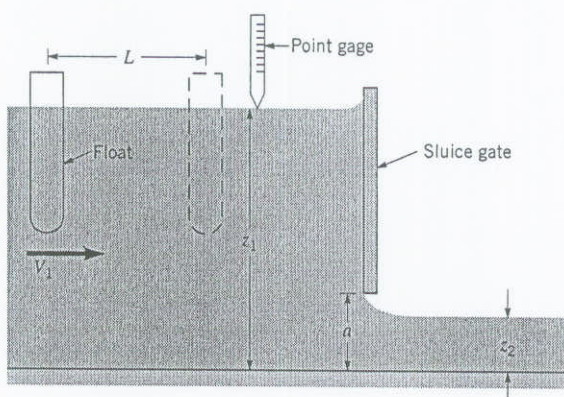

FIGURE P3.121
**Objective:** The flowrate of water under a sluice gate as shown in Fig. P3.121 is a function of the water depths upstream and downstream of the gate. The purpose of this experiment is to compare the theoretical flowrate with the experimentally determined flowrate.